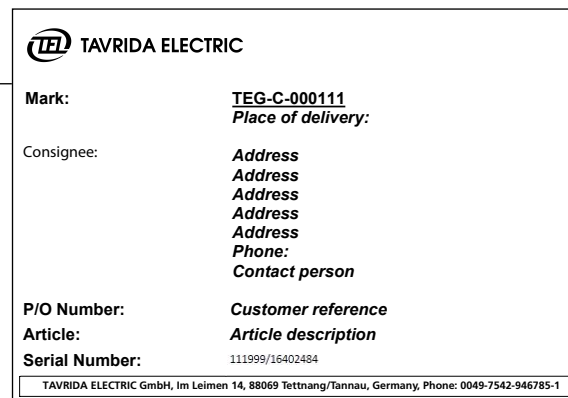

Figure 13
- label for logistics data (Figure 13).